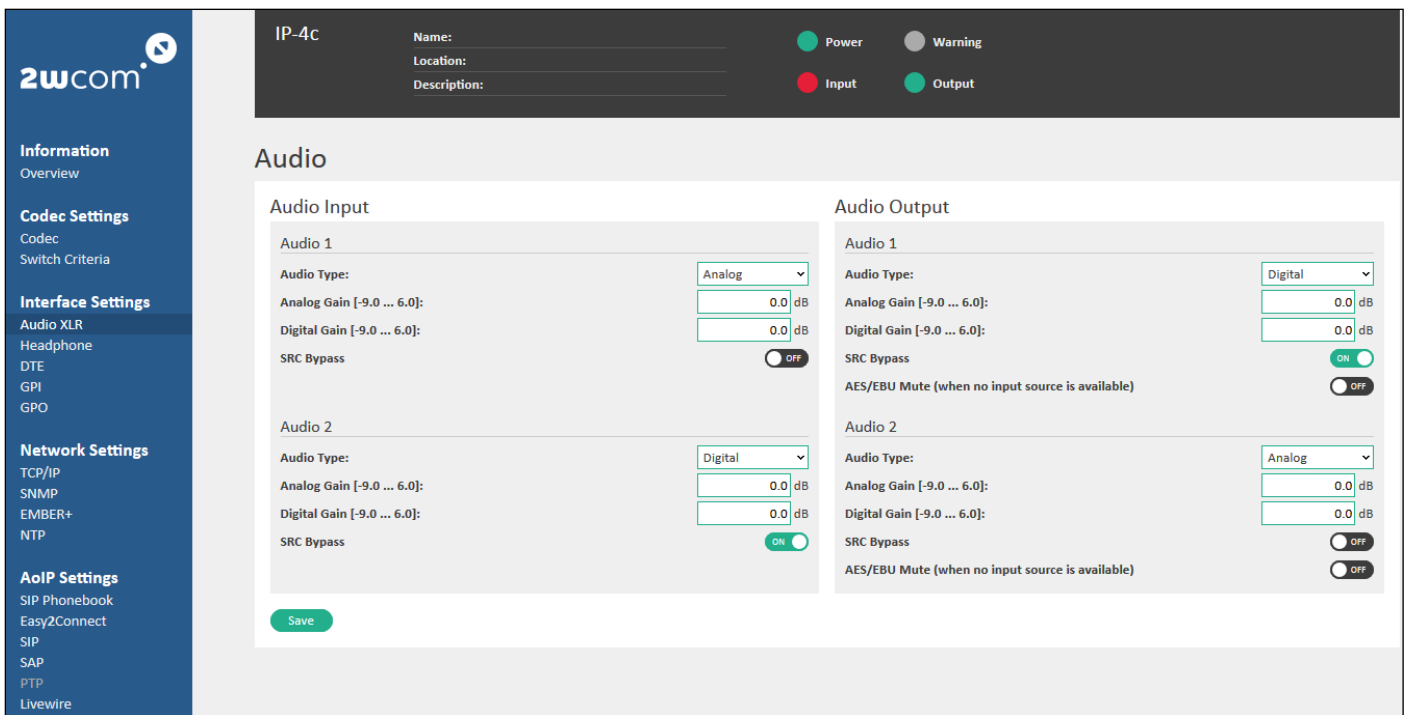

Figure 68: Interface settings - Audio XLR (< 1.26 App version)
1. Select **Interface Settings**→**Audio XLR** (see Figure 68).
NOTE: "Sample Rate Converter" switched off corresponds to the activated "Transparent Mode" in the MM01 devices and to the activated “SRC Bypass” in earlier IP-4c versions (< 1.26 App version, see Figure 68).